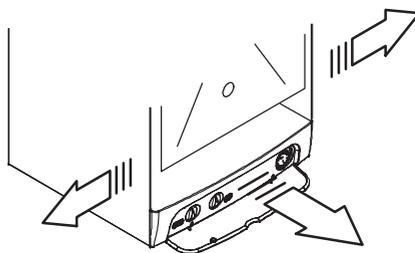

Fig. 6.11
- Remove the side panels or move the lower part of the side panels as indicated in Fig. 6.11 and pull the control panel. When completely pulled out, the panel can rotate 45° downwards to facilitate the operations on the internal parts.